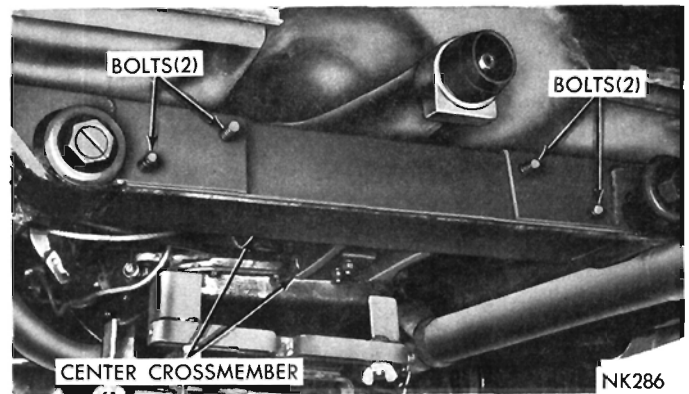

Fig. 51—Removing or Installing Center Crossmember (Fury Station Wagon)
(3) Disconnect the parking lock cable. Refer to Page 58. Remove bolts securing the extension housing to the crossmember insulator. Raise the transmission slightly with service jack, Tool C-3203A. Tap out the four long bolts and remove the center crossmember (Fig. 51).